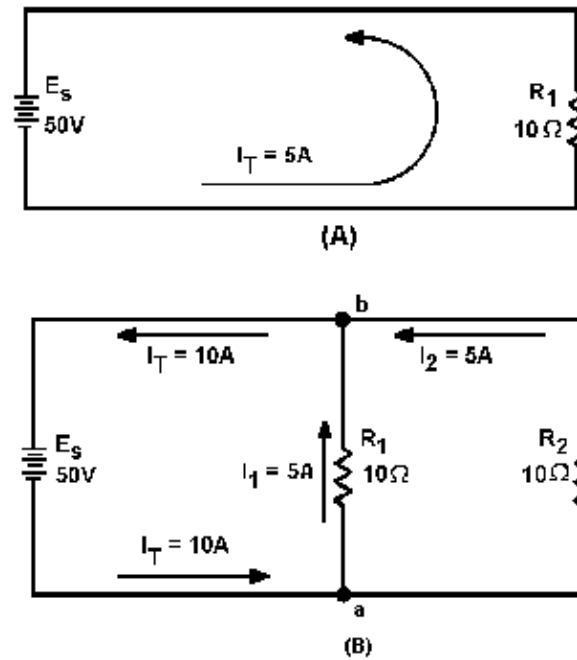
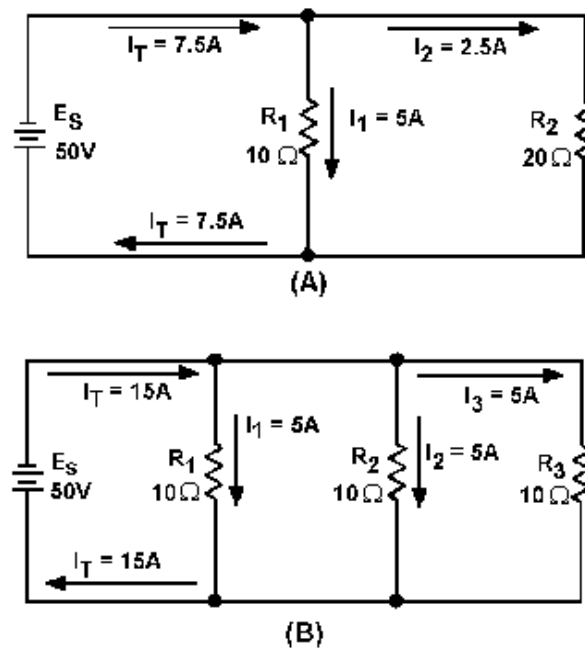

Figure 3-40.—Analysis of current in parallel circuit.
Figure 3-41.—Current behavior in parallel circuits.
Part (A) of figure 3-40 shows a basic series circuit. Here, the total current must pass through the single resistor. The amount of current can be determined.
Part (B) of figure 3-40 shows the same resistor ( $R_1$ ) with a second resistor ( $R_2$ ) of equal value connected in parallel across the voltage source. When Ohm's law is applied, the current flow through each resistor is found to be the same as the current through the single resistor in part (A).
The total current of 10 amperes, as illustrated in figure 3-40(B), leaves the negative terminal of the battery and flows to point a. Since point a is a connecting point for the two resistors, it is called a **JUNCTION**. At junction a, the total current divides into two currents of 5 amperes each. These two currents flow through their respective resistors and rejoin at junction b. The total current then flows from junction b back to the positive terminal of the source. The source supplies a total current of 10 amperes and each of the two equal resistors carries one-half the total current.
Each individual current path in the circuit of figure 3-40(B) is referred to as a **BRANCH**. Each branch carries a current that is a portion of the total current. Two or more branches form a **NETWORK**.
Compare part (A) of figure 3-41 with part (B) of the circuit in figure 3-40. Notice that doubling the value of the second branch resistor ( $R_2$ ) has no effect on the current in the first branch ( $I_{R1}$ ), but does reduce the second branch current ( $I_{R2}$ ) to one-half its original value. The total circuit current drops to a value equal to the sum of the branch currents. These facts are verified by the following equations.
The amount of current flow in the branch circuits and the total current in the circuit shown in figure 3-41(B) are determined by the following computations.
Notice that the sum of the ohmic values in each circuit shown in figure 3-41 is equal (30 ohms), and that the applied voltage is the same (50 volts). However, the total current in 3-41(B) (15 amps) is twice the amount in 3-41(A) (7.5 amps). It is apparent, therefore, that the manner in which resistors are connected in a circuit, as well as their actual ohmic values, affect the total current.